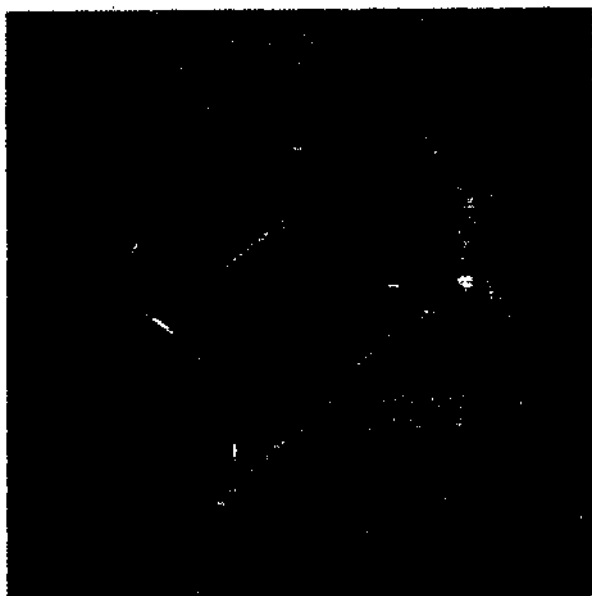

Figure 717. Removal of "O" ring packing and flat washer.
- (1) Turn off the personnel heater fuel shutoff cock by turning it clockwise.
- (2) Disconnect the electrical harness connector from the personnel heater by turning it counterclockwise.
- (3) Disconnect the fuel line from the elbow extending from the heater assembly. Remove the elbow and the nipple from the heater assembly.
- (4) Loosen the clamp securing the air duct to the heater adapter and slide duct from the adapter flange.
- (5) Disconnect the mounting clamps securing the heater assembly to the mounting saddles and remove heater.
- (6) Remove the "O" ring packing and flat steel washer from the heater exhaust flange, figure 717.